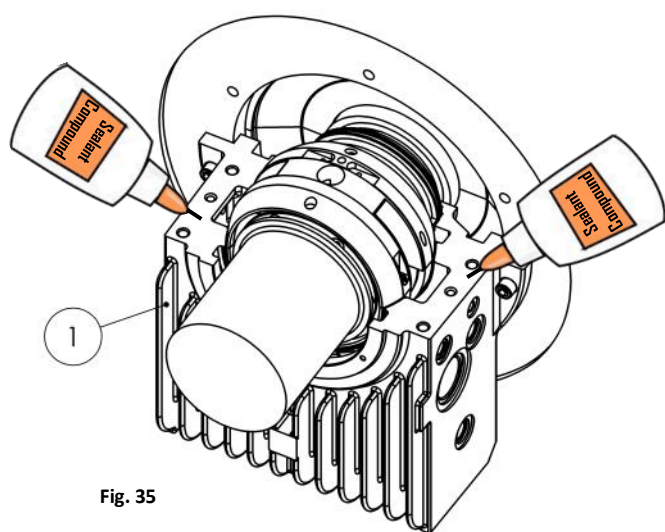
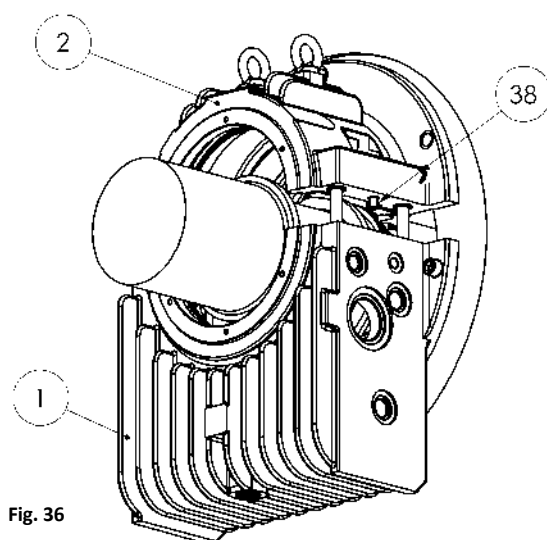

Fig. 35
Fig. 36
- Clean the split line surfaces of the both halves of the housing (Fig. 35). Apply an uniform layer on the split line of the lower bearing housing (1) of a non-hardening sealing compound.
- Very slowly lower the upper part of the housing (2), rotate it in the machine frame and position it on the flange.
- The positioning pin (38) in the upper half of the housing fits in the corresponding hole in the lower housing (Fig. 36).